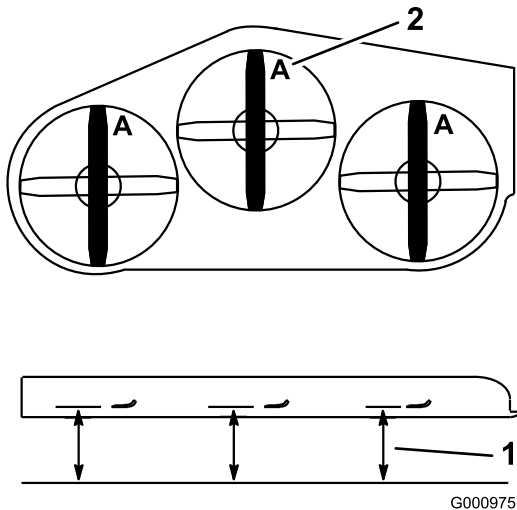

Figure 72
3. Rotate the blades until the ends face forward and backward. Measure from a level surface to the cutting edge, position **A**, of the blades (Figure 72). Note this dimension.